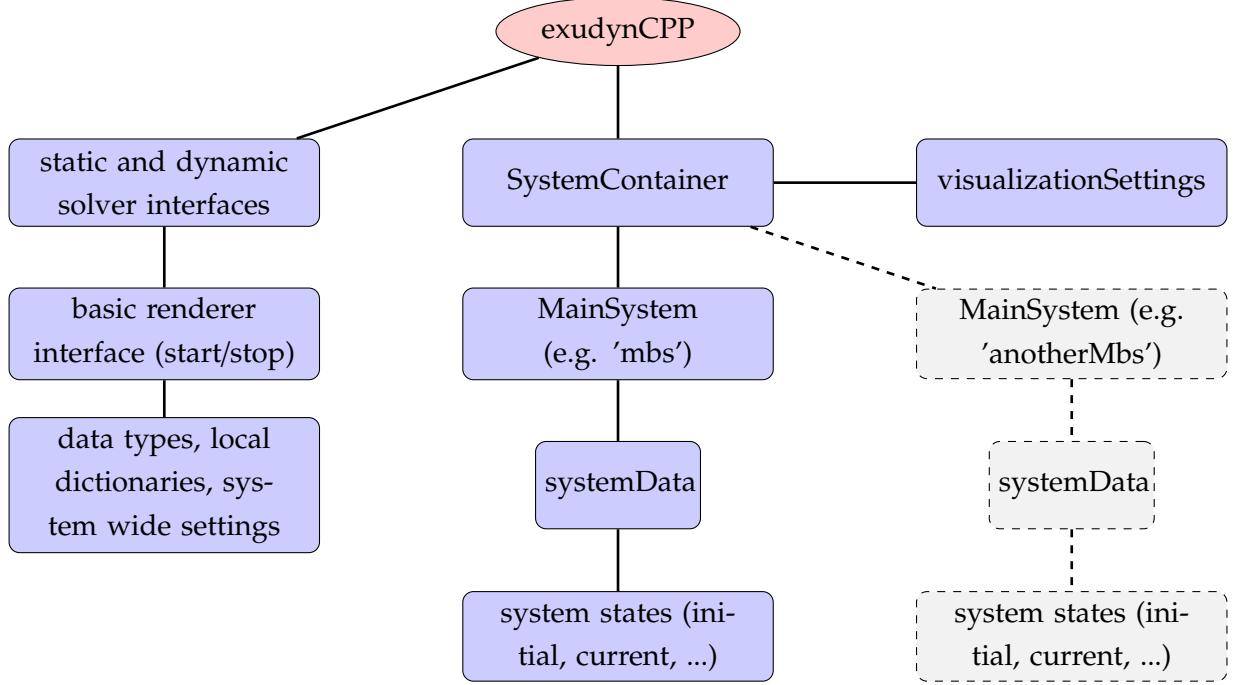

Figure 2.2: Overview of exudyn C++ module.
- **C++ parts**, see Figs. 2.2 and 2.3: